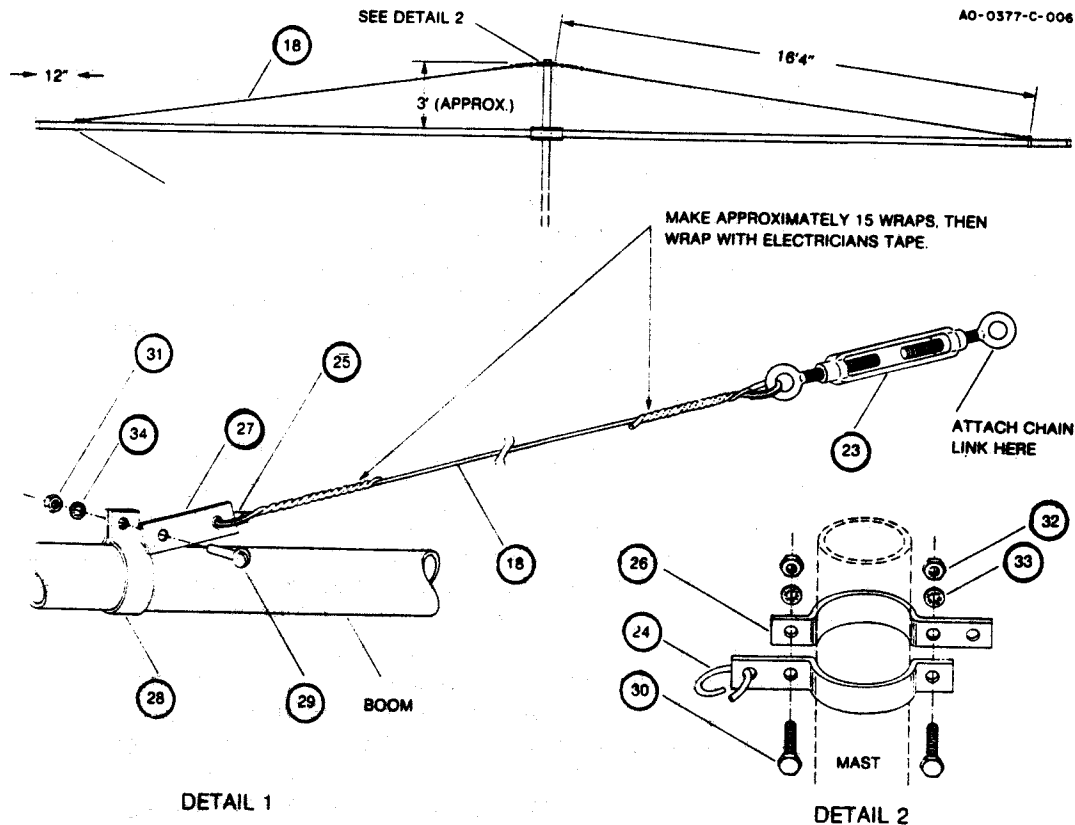

Figure 9. Assembly of The Boom Support Cable
() Select the 2" ID boom support clamps (28) and the boom support straps (27) and assemble securely on the boom approximately 1 foot from each boom end as shown in Figure 9. Attach the turnbuckles (23) to the opposite end of the cable as shown in the illustrations.
() Assemble the 1½" mast guy strap (26) (2 piece) on the mast as shown in Figure 9. Extend each turnbuckle to its full length then attach to the chain links and tighten each so that the tension is equal in each cable. Tighten the boom support clamp **SECURELY**. If you can, loosen the bolts in the boom-to-mast bracket and allow the antenna to drop so that the boom lies in a level plane with no sag. Re-tighten the bolts in the boom-to-mast bracket **SECURELY**. If the boom-to-mast bracket is permanently mounted on the mast, the boom sag can be taken out by mounting the mast guy strap (26) higher on the mast.